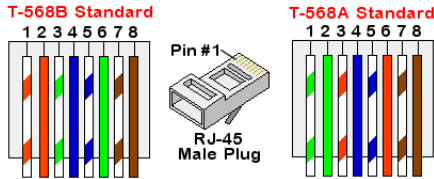

Figure 19: Standard cable wiring
- c. Insert the eight wires into an RJ45 connector, as described in *Figure 19*
7. For the switch/ router side, use a pre-terminated cable or use a crimper to prepare an RJ45 communication connector: Insert the eight wires into the RJ45 connector in the same order as above (*Figure 19*).